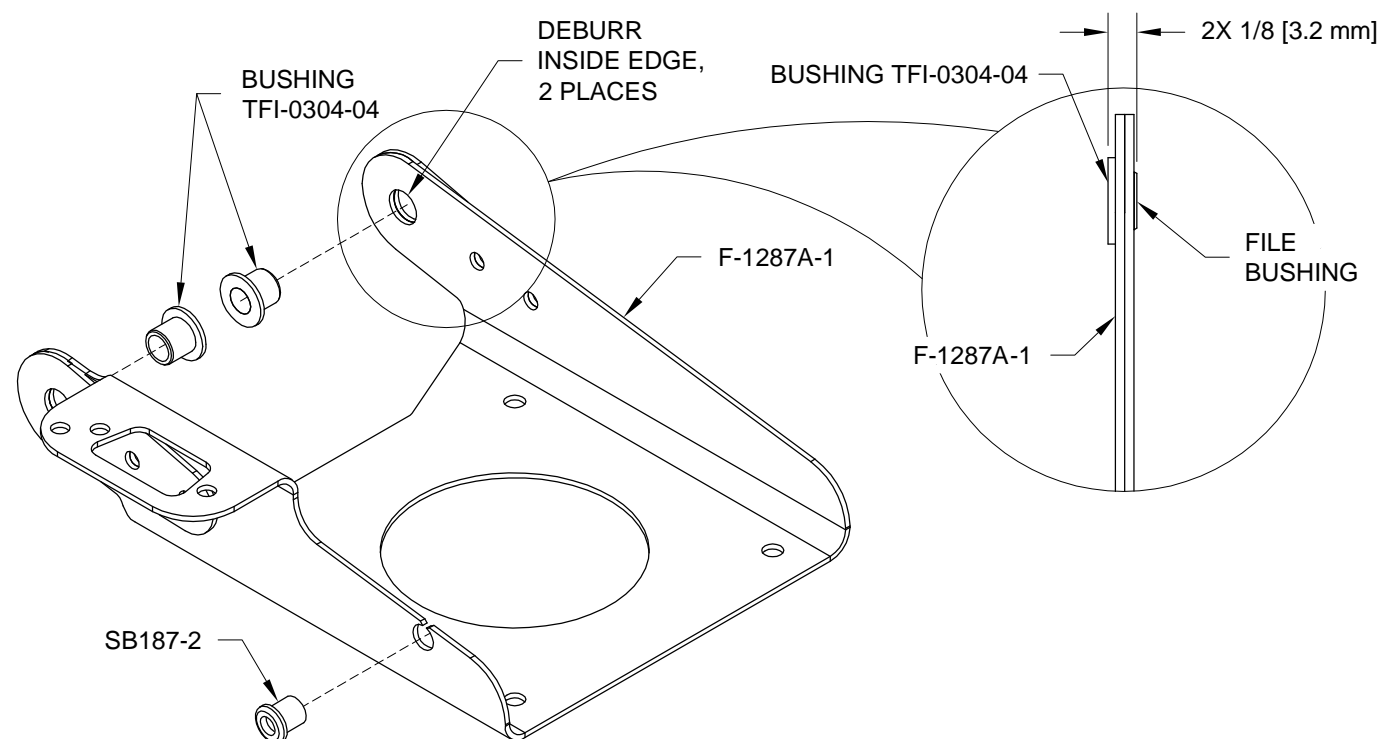

FIGURE 2: INSTALL BUSHINGS
Step 3: Insert the small plastic snap bushing into the opening in F-1287A-1 as shown in Figure 2.
Step 4: Insert the polymer bushings into the F-1287A-1 Servo Tray as shown in Figure 2.